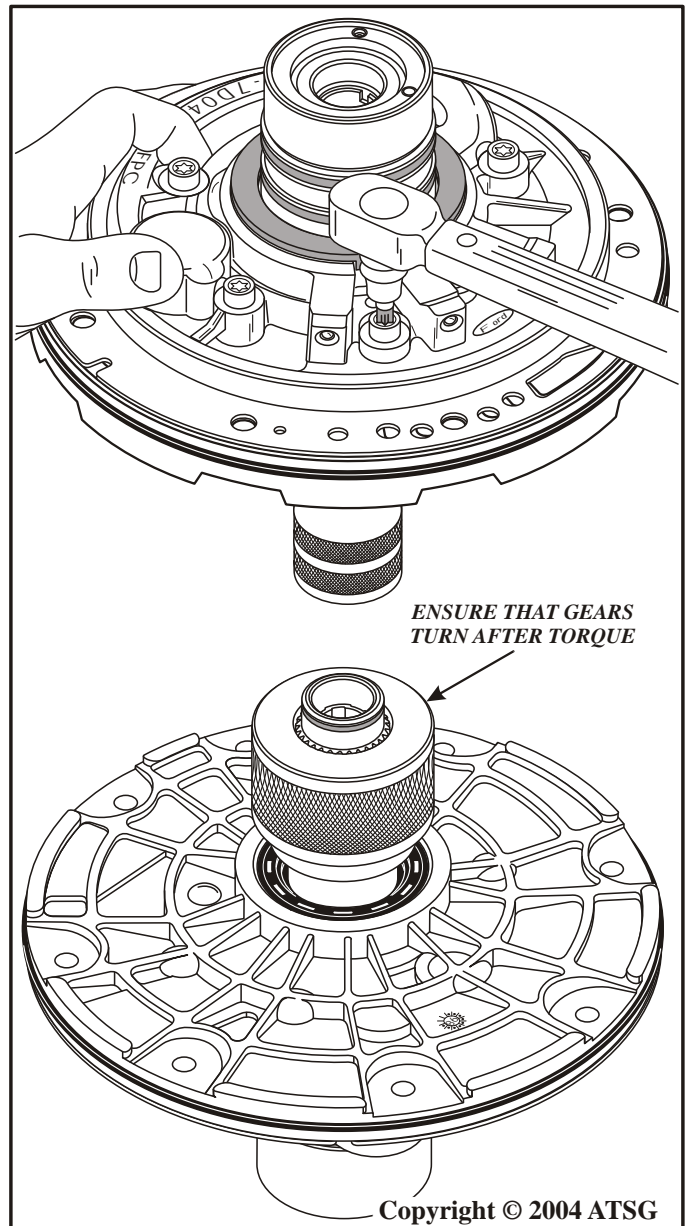

Figure 65
18. With the **alignment tool in place**, torque all six bolts in a star pattern to 18 ft.lb. as shown in Figure 65.
19. Remove the alignment tool and ensure that the pump gears will turn after they are torqued, as shown in Figure 65.